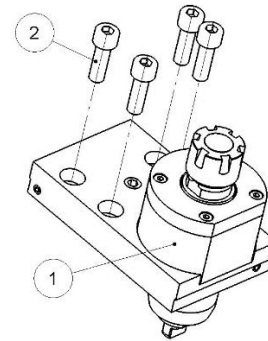

Figure 1
To fix the tool holder (fig. 1, pos. 1), centre the shank in positions T20 to T29 on the machine (fig. 4). Tighten the 4 M8 screws (fig. 1, pos. 2).